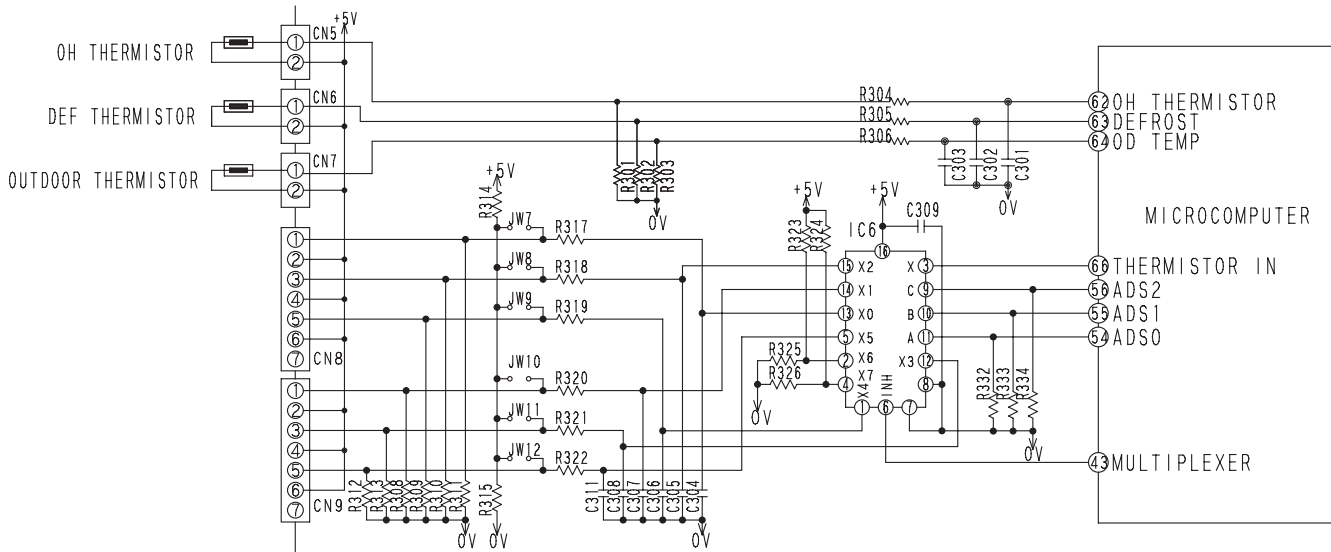

Fig. 10-1 Temperature Detection Circuit
- The circuit of the thermistors is shown as Fig. 10-1 for model RAS-70YHA, and their roles and temperature measuring points are shown as Table 10-1.